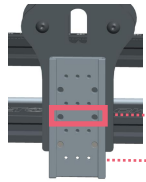

Figure 1
1. The laser engraving machine has 3 groups installation holes, the laser module will set at the hole Group 1st as default. Please remove and re-set the laser module at Group 2nd as the standard installation holes as shown in Figure 1 and Figure 2 below.